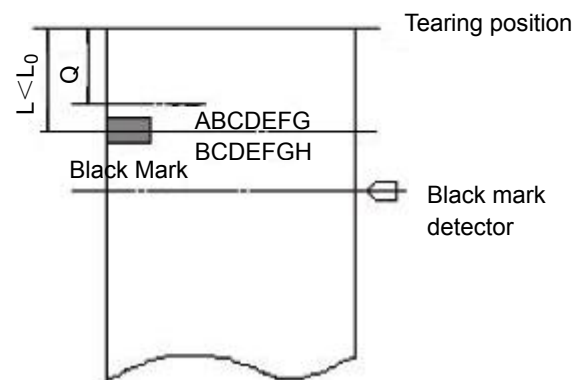

Figure 3
2. (1) When the distance L between the tearing position and the black mark position is less than the inherent mechanical value L_0 of the printer (shown as Figure 3), the calculation of tearing position offset is shown as follows: